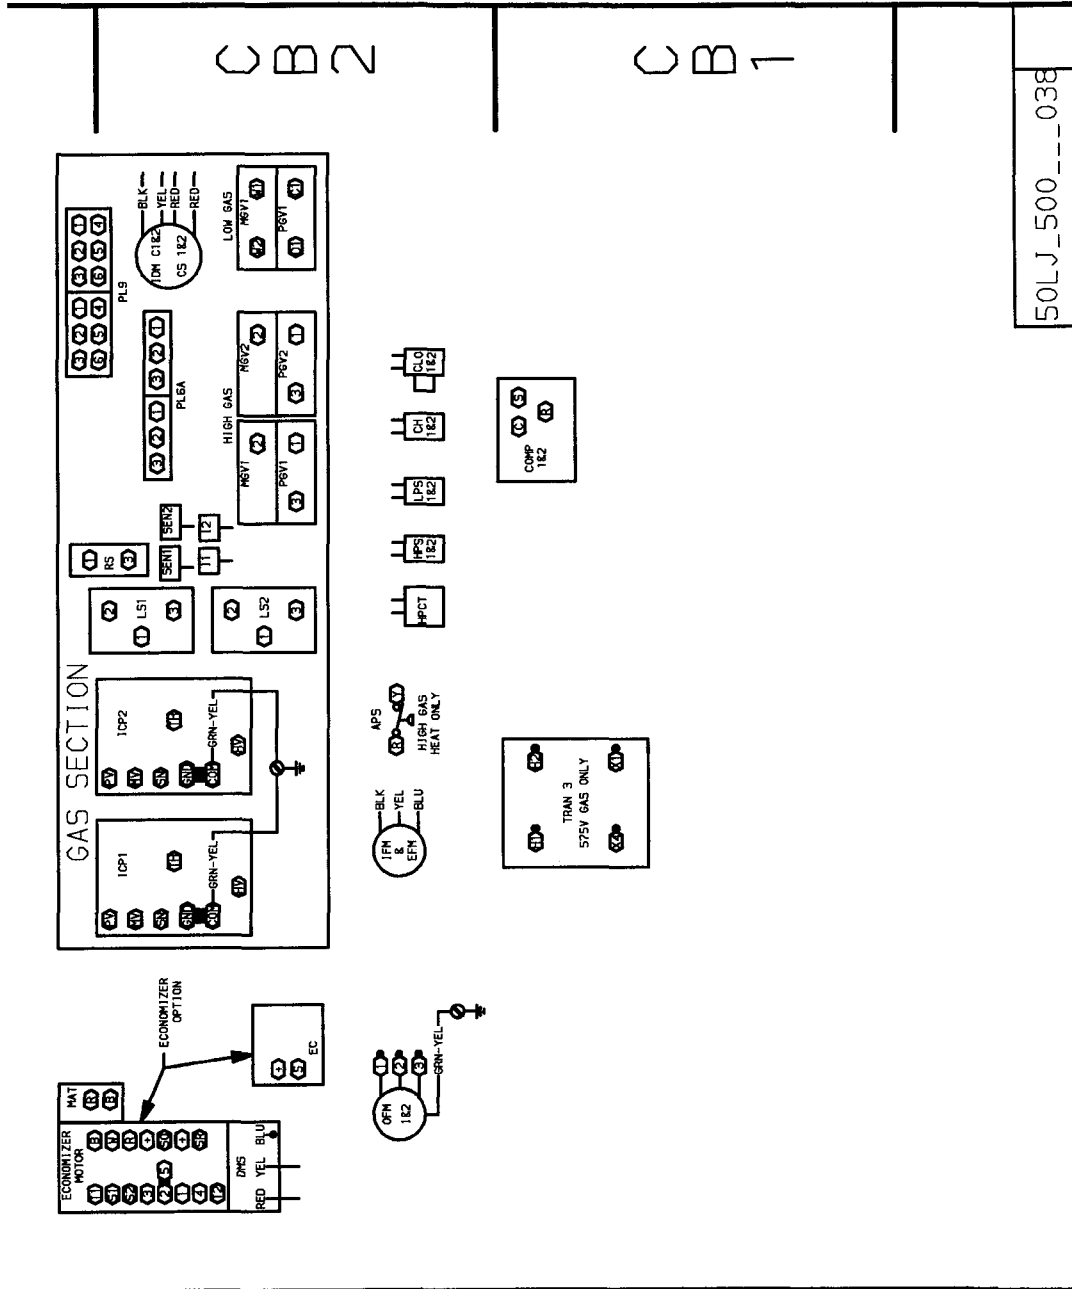

Fig. 14 – Control Box Component Arrangement, 48/50LJ and 50LW Units
CONTROL WIRING — Install a Carrier-approved accessory thermostat assembly according to the installation instructions shipped with the accessory. Locate thermostat assembly on a solid wall in the conditioned space to sense average temperature (where airflow is stable and thermostat is not in direct line of supply-air duct). Route thermostat cable or equivalent leads of no. 18 AWG (American Wire Gage) colored wire from subbase terminals to 24-v terminal strip (P1). The terminal strip is located on the constant volume control board on units with no economizer and on the economizer board on units with the economizer option (see Fig. 14).
1. Firestat or smoke detector (field-supplied switch 1). Remove factory-installed jumper wire and wire a field-supplied firestat or smoke detector between terminals 2 and 3 on terminal block 2 (TB2) in the unit control box (see Fig. 14 for the location of TB2 in the control box).
115-V Connection: Convenience outlet can be mounted on panel containing control circuit breakers CB3 and 4. (See Fig. 14.) Remove sheet metal cover that conceals $2\frac{3}{8}$ by $1\frac{7}{16}$ in. hole and install outlet in hole. Wire between terminals 4 and 5 on TB2 in the unit control box (see Fig. 17). The convenience outlet should be ground fault protected. Convenience outlet is to be used only when the unit is not operating.